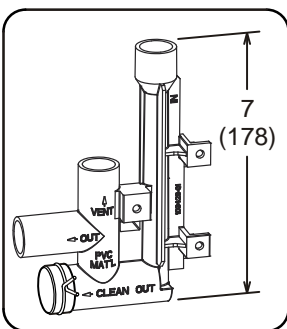

FIGURE 4
Use the kits listed in tables 1, 2, 3 and 4 to replace the cold end header box in all furnaces equipped with a 1/2" drain or 3/4" drain. See figure 4.
18. -Reconnect the condensate drain trap to the CEHB and prime trap. See figure 4.